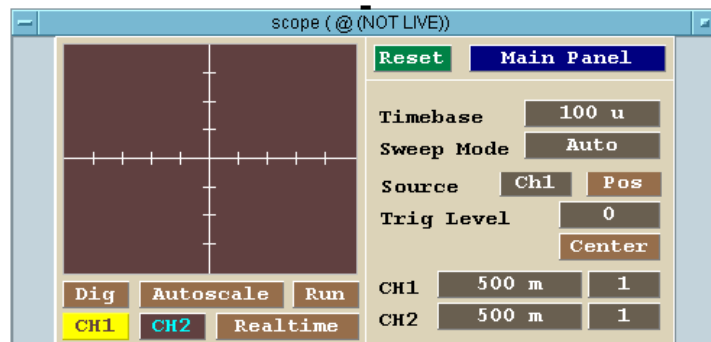

Figure 3-11. Selecting `scope (@ (NOT LIVE))`
- Place the outline of the scope panel and click to place it. The display should look similar to Figure 3-11.